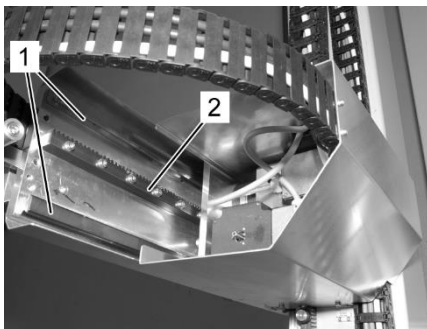

Fig. 40: Z-axis
5. Grease the linear guides (Fig. 40/1) and the rack (Fig. 40/2) of the Z-axis with a light machine oil using a lint free cloth.